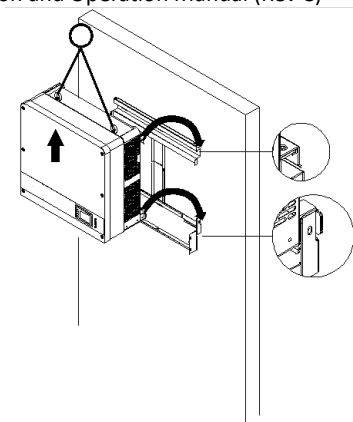
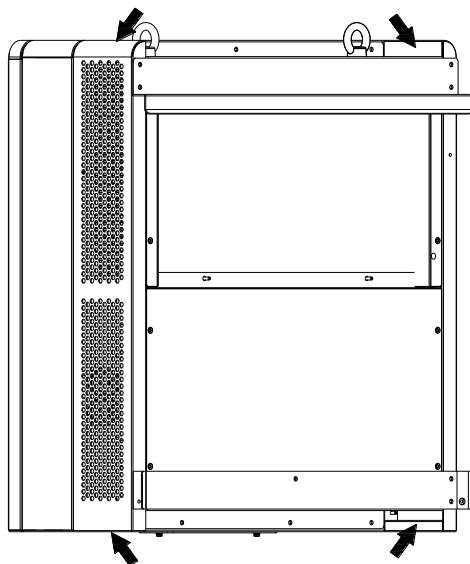

Figure 2.8 - Mounting the Main Inverter Section on the Bracket
Figure 2.9 - Grab Handle Position
(3) Hang the inverter onto the mounting bracket as shown in Figure 2.8 and Figure 2.9;
Manual mounting: Two people are needed to properly lift the inverter by the handles detailed in Figure 2.9, and mount the inverter onto the bracket.